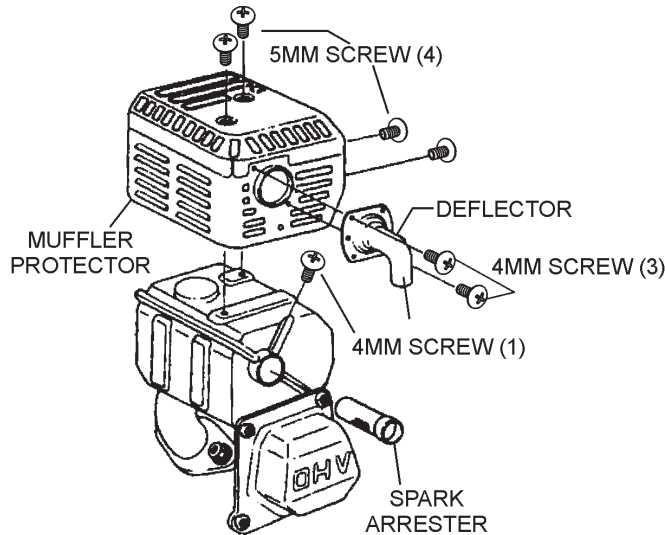

Figure 32. Spark Arrester Removal
1. Remove the 4 mm screws (3) from the exhaust deflector, then remove the deflector. See Figure 32.
2. Remove the 5 mm screws (4) from the muffler protector, then remove the muffler protector.